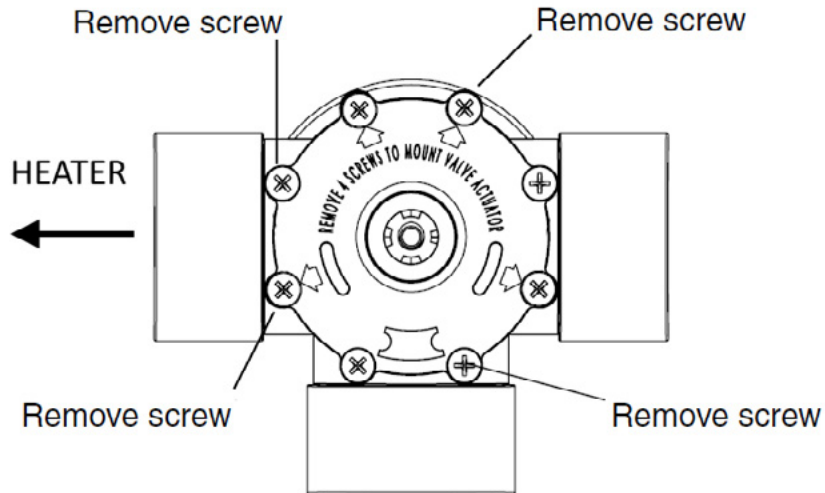

Figure 4. Heater to Left of Valve
4. Remove the four (4) screws from the valve assembly top cover. See Figures 4 and 5 depending on where your heater is located relative to your valve.